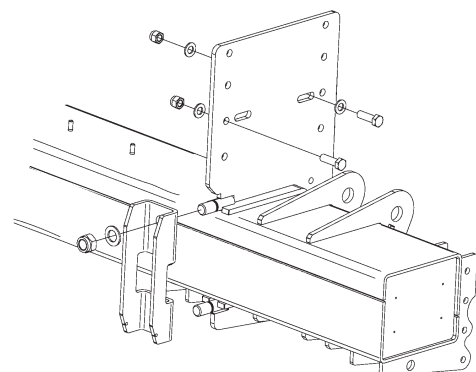

Figure 29. Install the U-profile with associated washers and nuts
8. Install the U-profile with associated washers and nuts, but do not tighten them. Screw the nuts on alternately until the U-profile is flat against the body, see Figure 29